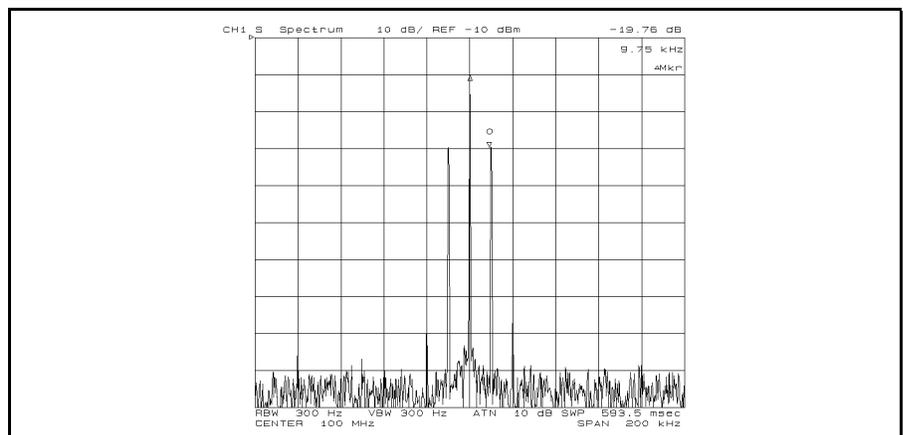

Figure 4-13. Modulating Frequency of AM Signal
4. Press **(Search)** SEARCH:PEAK NEXT PEAK to search for a sideband. The offset value from the carrier is displayed as the marker sweep parameter value shown in Figure 4-13. This value is the modulation frequency.
where ΔMkr is the Δ marker sweep parameter value shown in Figure 4-13.